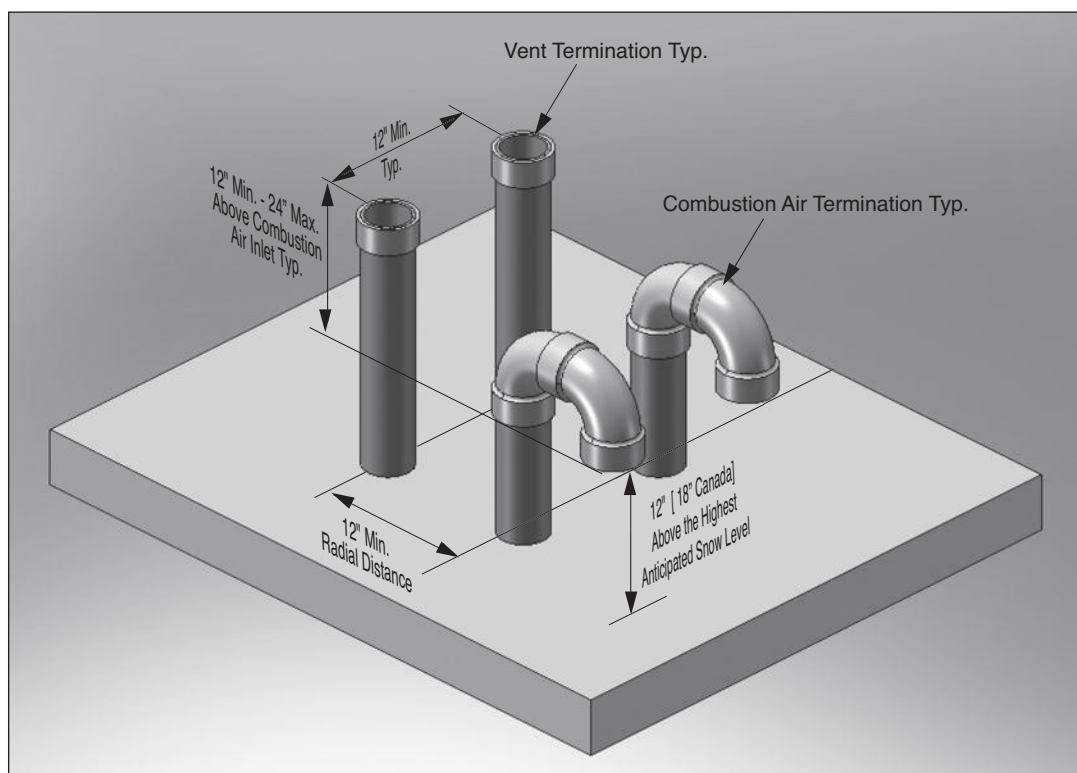

Fig. 7: Direct Vent - Vertical Termination of Multiple Boilers
2. The roof penetration of the vent and combustion air piping should be such that the combustion air inlet is a minimum 12" from the adjacent vent pipe of the other boiler for installations in the U.S. as shown in Fig. 7. For installations in Canada, provide clearances as required by CSA B149.1 or 149.2.